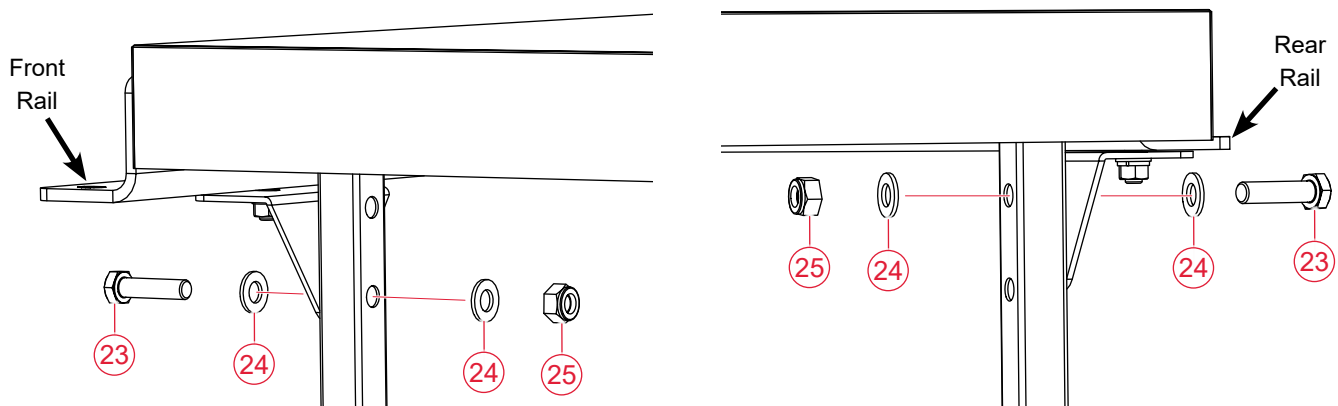

Fig. 16
Attach each support leg to the corresponding leg support bracket with an M10 x 45 hex head bolt (23), two M10 washers (24), and an M10 lock nut (25) (Fig. 16), and then fully tighten the bolts using two 17 mm wrenches.